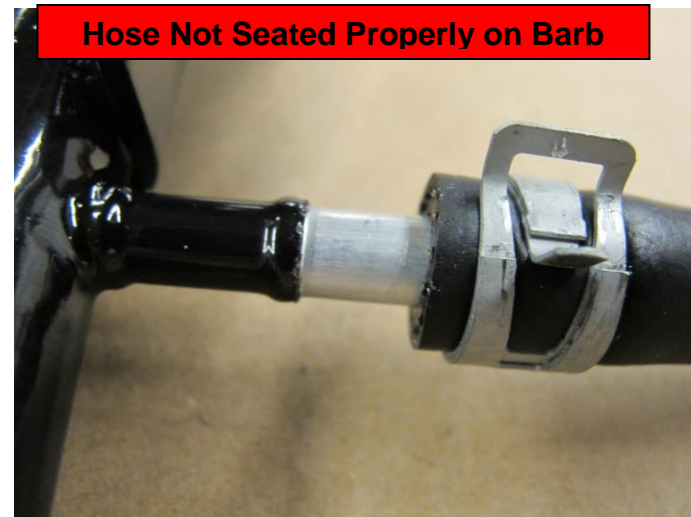

Figure 16
- Hose not seated properly on barb (Check hose insertion length) (Figure 16).